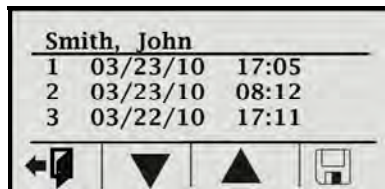

Figure 19: View 1st Page of Punches at Terminal
- **View Punch Information:** The MTX-15 allows the user to view the last 4 punches on any MTX-15 terminal in a multiple terminal configuration. The Time & Attendance software will download the last 4 punch data of each employee to each MTX-15 terminal at a predetermined time every night. Each terminal will hold the last 4 punch information in its memory for all employees in the table. The user can view the last 4 punches from the main screen as shown in **Figure 19**.
- Step 3.** The user can swipe his/her badge magnetic card or use the keypad to enter the ID number. Press **enter enter** to accept the ID number. If a mag card is used, there is no need to press **enter enter**. The terminal will display the last 4 punches recorded for that ID with the employee name (see **Figure 19**).